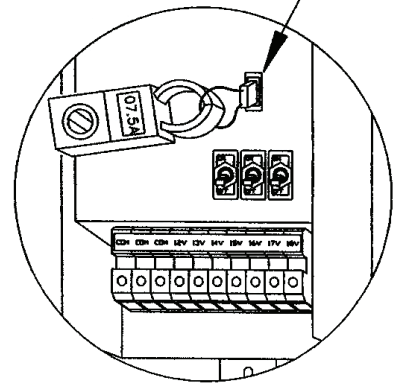

Figure 4
5. **CHECKING THE INPUT CURRENT:** The Transformer is equipped with a wire loop in the optional photocell plug that can be utilized to measure the input current using a clamp-on ammeter as show in Figure 4. For the best accuracy, this meter should be of the True RMS type. DO NOT EXCEED THE MAXIMUM INPUT CURRENT specified in Table 1. If the measured value exceeds the maximum specification, first shut down the transformer and then adjust the load by removing fixtures and/or reducing lamp wattages in the fixtures until the input current is brought within limits. The Transformer is marked with a label specifying the maximum input current.